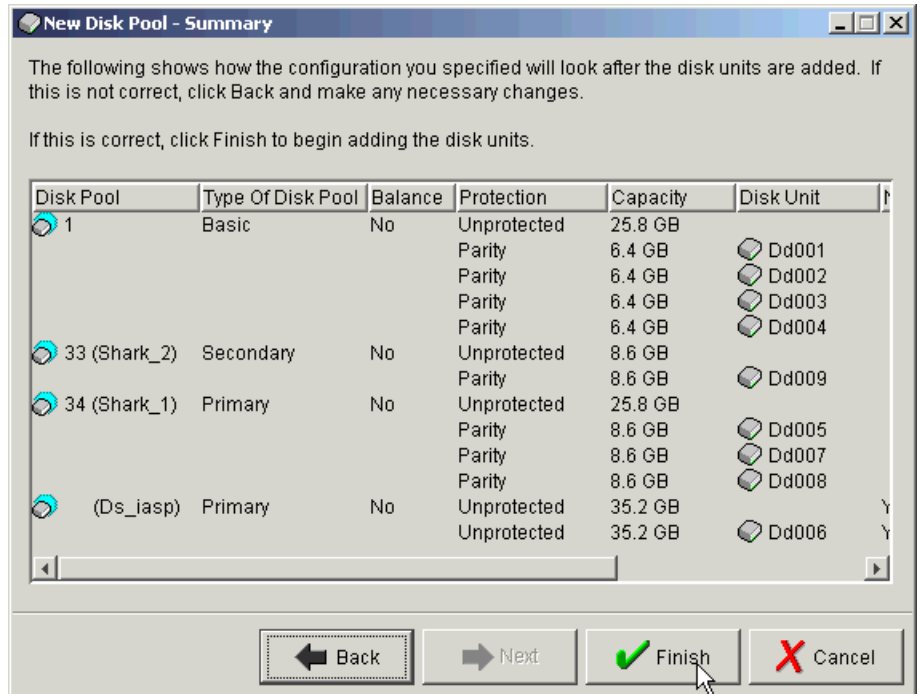

Figure 18-15 New Disk Pool Summary
12. A summary of the Disk Pool configuration similar to Figure 18-15 appears. Click **Finish** to add the disks to the Disk Pool.